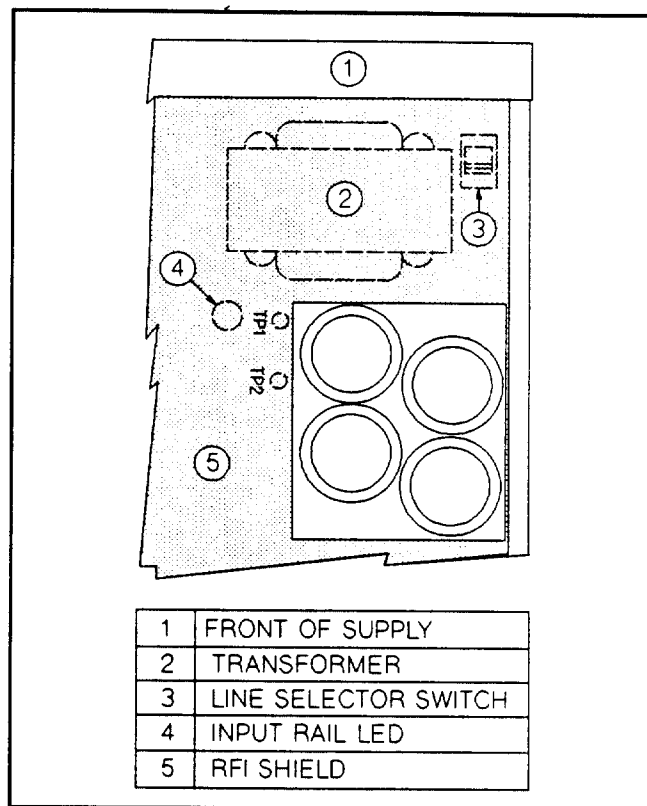

Figure C-1. Locations of Input Rail LED & Line Selector Switch
5. Observe the input rail LED under the RFI shield (see Figure C-1). **If the LED is on, there is still hazardous voltage inside the supply.** Wait until it goes out (this may take several minutes) before proceeding.
7. Locate the line selector switch (see Figure C-1) and slide it to the desired position.
5. Locate the input rail LED under the shield cover (see Figure C-1). **If the LED is on, there is still hazardous voltage inside the supply. Wait until it goes out (this may take several minutes) before proceeding.**